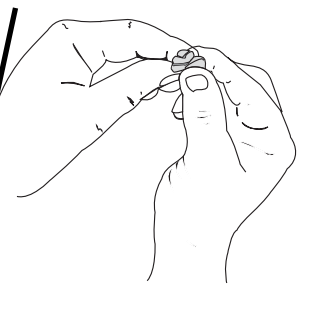

Fig. 25
5. Squeeze the filter to spread and remove excess oil (Fig. 25).